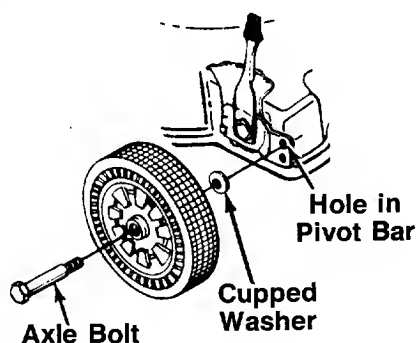

FIGURE 5A.
3. Insert axle bolt into pivot bar, using the upper hole as shown in figure 5A.